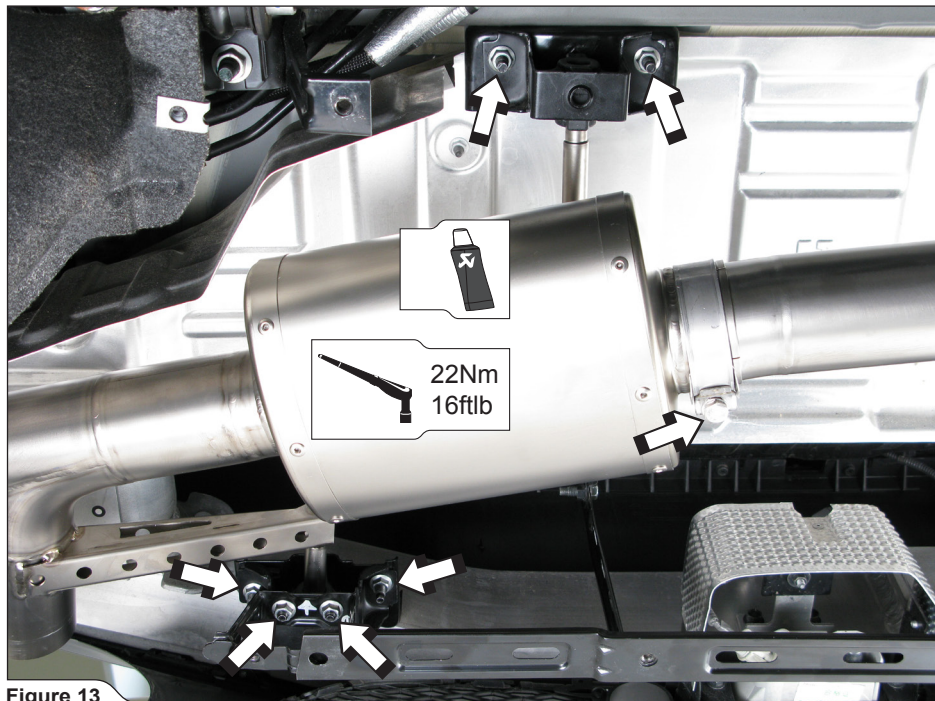

Figure 13
- Slide the mufflers onto link pipe, tighten the rubber brackets using original nuts, tighten the metal clamps and reattach the bumper brackets (**Figure 13**).